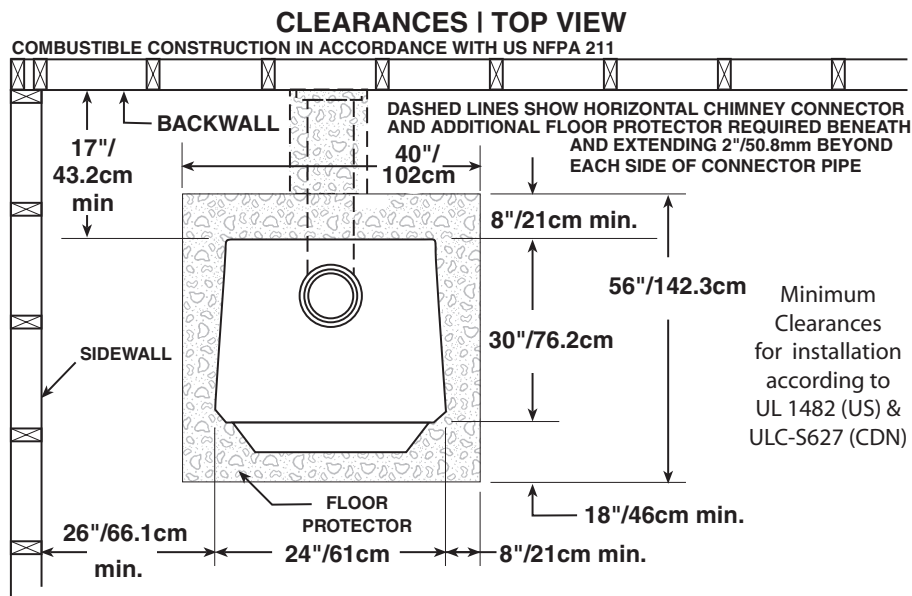

Figure 4 – TOP VIEW Minimum Clearance Dimensions from Combustible Surfaces
1. The stove must be placed on solid concrete, solid masonry, or when installed on a combustible floor, on an Underwriters Laboratories Listed Type 2 floor protector listed to UL standard UL 1618, such as Hy-C or Imperial Model UL4056BK. Floor protector **must be 1/2"/13mm minimum thickness (R value = 1.19, K value = 0.84** see page 23 for calculation formulas) non-combustible material or equivalent. The floor protector must extend at least 18"/46cm beyond the front of the access door, 8"/21cm to the sides, 8"/21cm beyond the rear and must extend under and 2"/50mm beyond either side of the stove pipe if it is elbowed towards a wall. (See figures 4 – 6 and consult local building codes and fire protection ordinances.)
4. After observing the clearances to combustible materials (figures 4 – 6), locate your floor protector accordingly (figure 4) and carefully place the stove in your selected location. Install connector pipe, elbows, and thimble as required, utilizing either a recently cleaned and inspected 6"/152mm lined masonry chimney or a 6"/152mm i.d. manufactured chimney system listed to UL 103 HT (US)/ULC-S629 (CDN).
5. Use round 6"/152mm dia., minimum 24 MSG black or 26 MSG blue steel stove pipe to connect the stove to the chimney. Do not use galvanized stove pipe. **NOTE: Mobile home installations require double-wall UL 103 HT high-temp connector pipe.** Secure connector pipe to the flue collar with three (3) equally spaced sheet metal screws to
6. Recheck clearances from the stove, connector stove pipe, and corner clearances using the illustrations in figures 4 – 6 and your local building codes or fire protection ordinances.